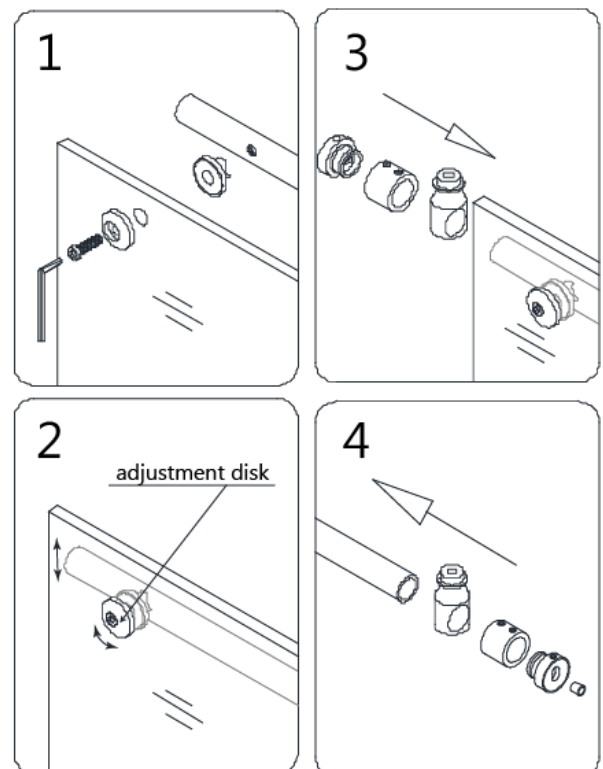
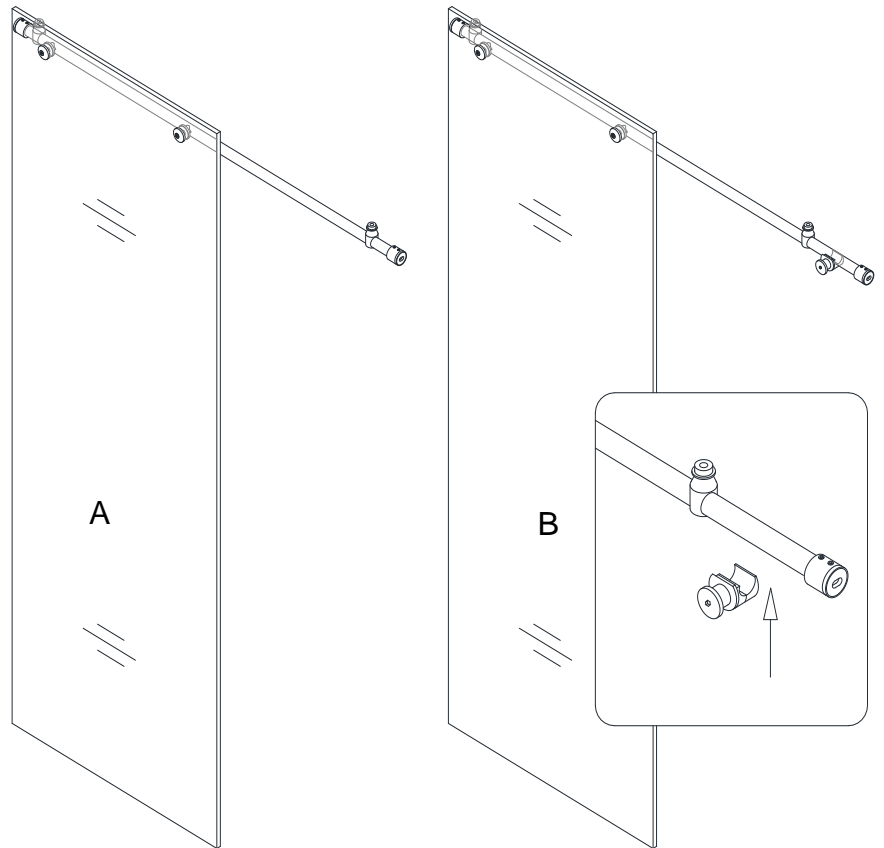

Fig. 6
Fig. 7
See Fig. 6 and Fig. 7 for details.
7. If the width of your model is **72"** and you are installing the door with the **Small Stationary glass (#24)**, attach the **Small Stationary glass bracket (#23)** to the **Upper guide rail (#03)** between the **Door stopper (#01)** and the **Guide Rail brackets (#08)** as shown in Fig. 7(B).